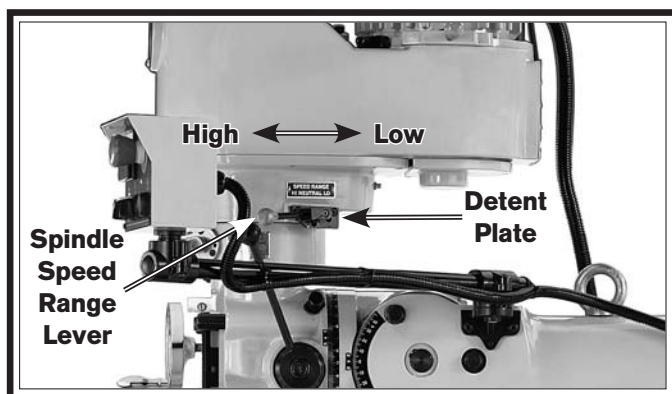

Figure 34. Spindle speed range selector.
3. Press the spindle speed range lever shown in **Figure 34** toward the head to release the detent pin from the detent plate, move selector so that the pin is over the other detent, then release the selector.